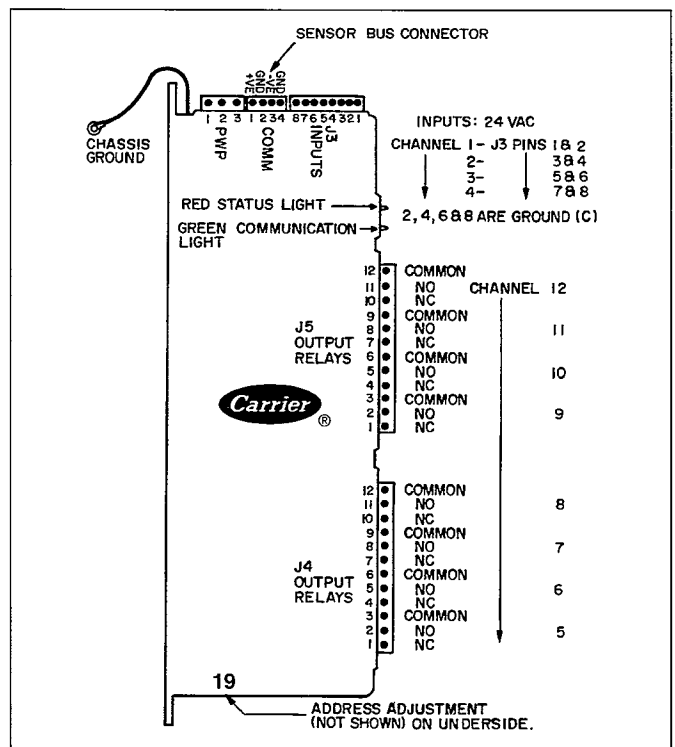

Fig. 25 Low-voltage relay module (DSIO) A3
d. Low-voltage relay module (DSIO) (see fig. 25)